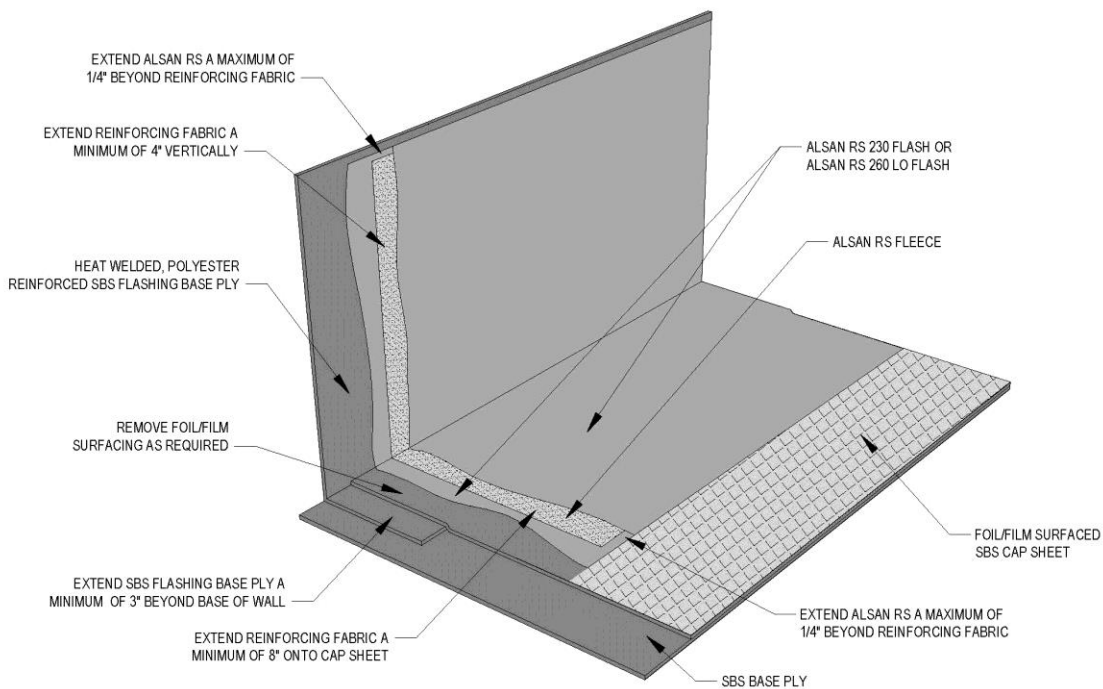

Figure 4.1b ALSAN® RS Wall/Curb Flashing with SBS Flashing Base Ply on Foil/Film Surfaced Cap Sheet Without Cant
- Remove foil/film surfacing prior to installing the ALSAN® RS roof system flashings on SOPRASTAR™ and SOPRALAST™ cap sheets. Refer to Figures 4.1b, 4.1d, 4.1f, 4.1h, 4.1j, 4.1l, 4.1n, and 4.1p. Refer to Section 5.3.2 for removal of foil/film surfacing.